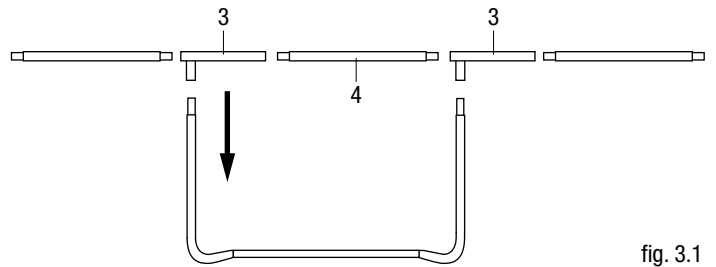
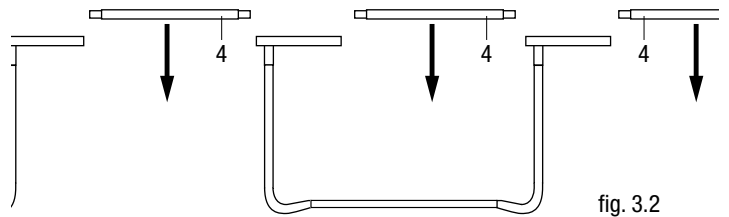

fig. 3.1
fig. 3.2
a) You will need a helper for this assembly step. One person holds the supports from Step 2 in an upright (vertical) position and puts the leg support of one of the frame tubes with leg supports (3) onto a supporting leg of the supports. The other person holds the other end tight and sticks a frame tube (4) and another frame tube with leg supports (3) onto another support as shown. You should now have 2 sets of supports which are held together by an upper frame tube with leg supports. (fig 3.1) b) Now insert the other frame tubes (4) in between the supporting legs (6) by inserting them in succession. (fig 3.2) Before inserting the final frame tube, you should initially loosen one or two leg supports again. This will make it easier to stick in the final tube.